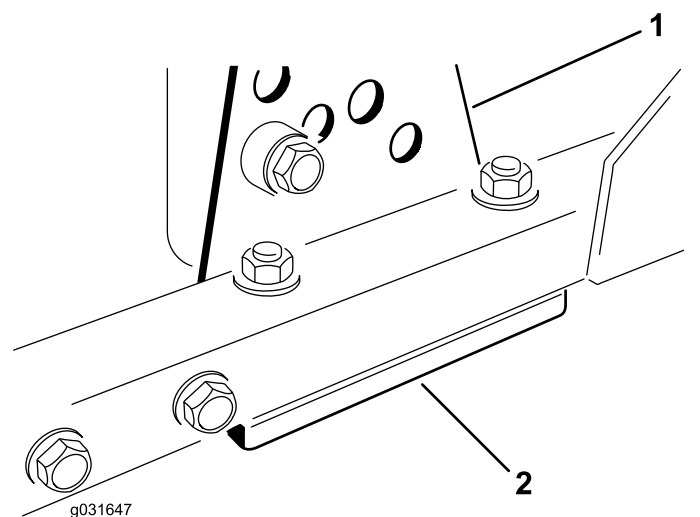

Figure 71
1. Remove the height-of-cut bracket (front, left, or right) from the deck frame (Figure 71).
- Adjust the 1.5 mm (0.06 inch) shims and/or 0.7 mm (0.03 inch) shim between the deck frame and bracket to achieve the desired height of cut (Figure 71).
- Install the height-of-cut bracket to the deck frame with the remaining shims assembled below the height-of-cut bracket (Figure 71).